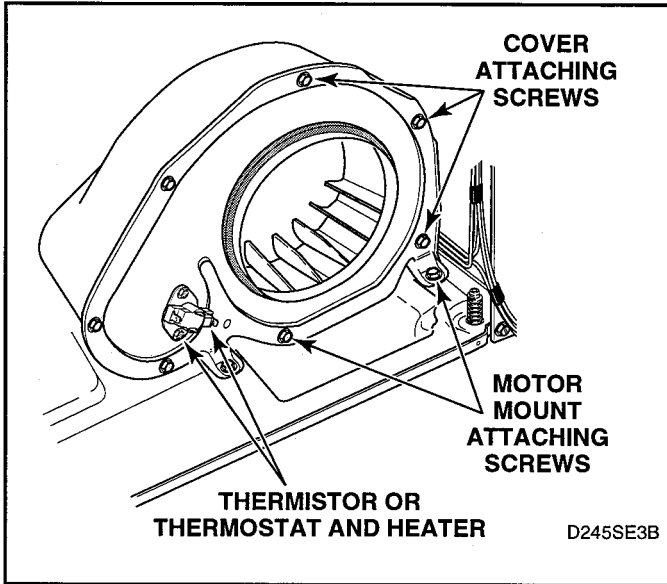

Figure 5-14
- Remove two screws holding motor mounting bracket to dryer base. See figure 5-14.
1. Remove screws holding cover to housing. See figure 5-14.